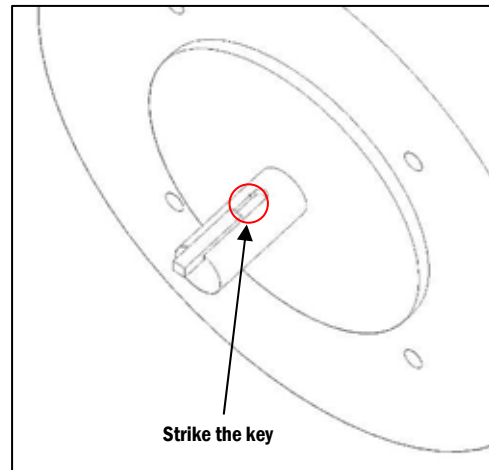

Figure 1
❶ Strike the Key on the Motor's Shaft
- c. Hold a Flathead Screwdriver with the head at the back end of the key, and lightly tap the area adjacent to the key to upset material (**Figure 1**). This material will not allow the key to move axially when assembled to the speed reducer (for more, refer to Boston Gear's 700 SERIES WORM GEAR SPEED REDUCERS INSTALLATION, LUBRICATION, OPERATION INSUTRCTIONS AND PARTS document provided with the speed reducer).